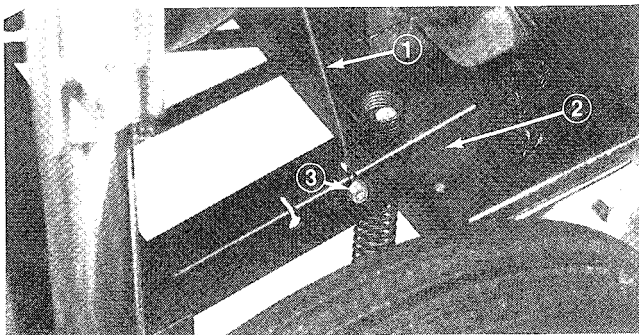

Figure 2
2. On self-propelled model, hook lower end (ball end) of the traction control wire in keyhole slot in arm on the traction drive guard (Fig. 2). Secure ball in keyhole slot with screw and nut. (Fig. 2).